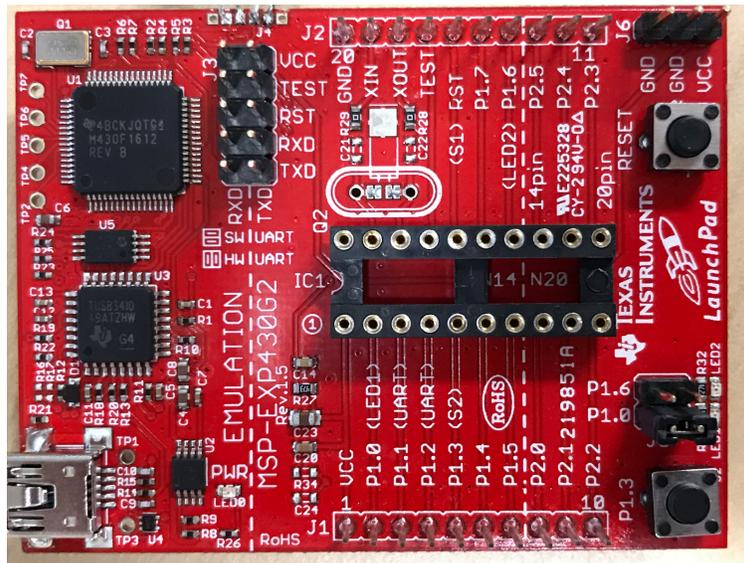

Figure 61. LaunchPad™ MSP430™ Socket (Depopulated)
- Remove the MSP430 chip from the LaunchPad, if one is present, see Figure 61